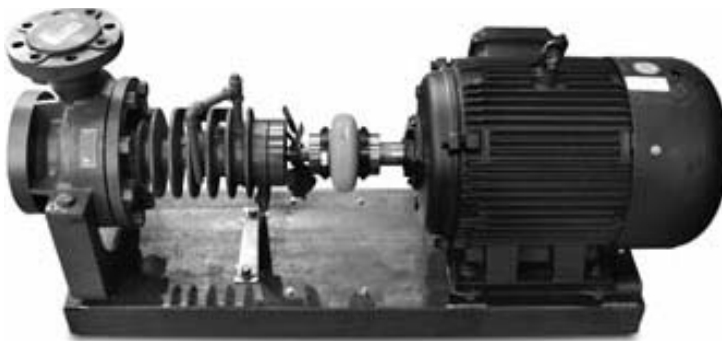

FIGURE 13- AIR-COOLED THERMAL FLUID CIRCULATING PUMP
7. In systems utilizing a Dean pH style or Goulds circulating pump, check level of lubricating oil in self-leveling reservoir. See Figure 13.